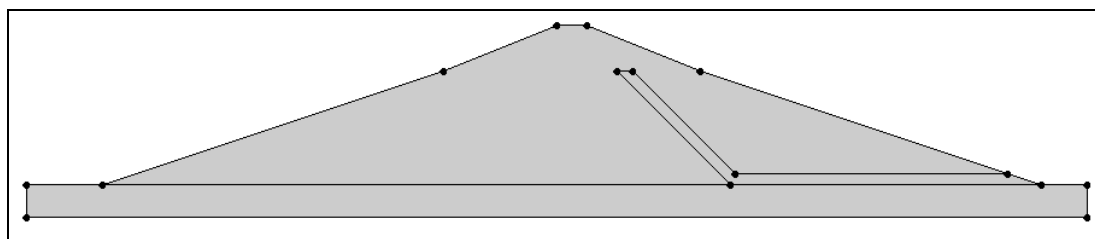

Figure 5. Arcs Connecting Points
3. Using Figure 5 below as a guide, click on the points to connect them with arcs to create the slope.